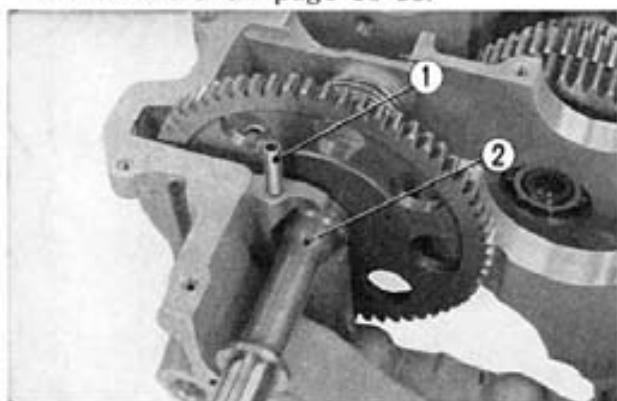

Fig. 3-96 ① Kick spindle stopper pin
2. Install the kick starter spindle (Fig. 3-96).
3. Install the kick spindle stopper pin (Fig. 3-96)